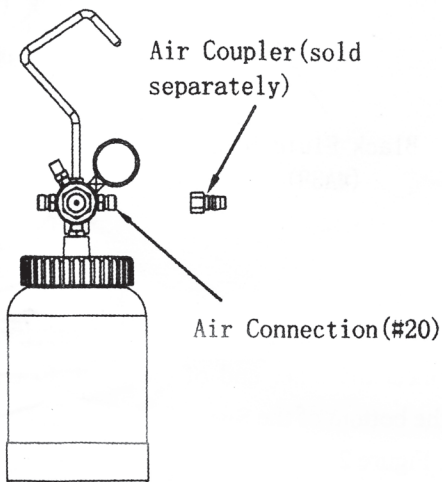

Figure3—Connecting the Handle
Step 7: Connect the air hose from the compressor to the AIR CONNECTION(#A20) and secure. You may need to use an Air Coupler between the compressor hose and the AIR CONNECTION. (See Figure 3).